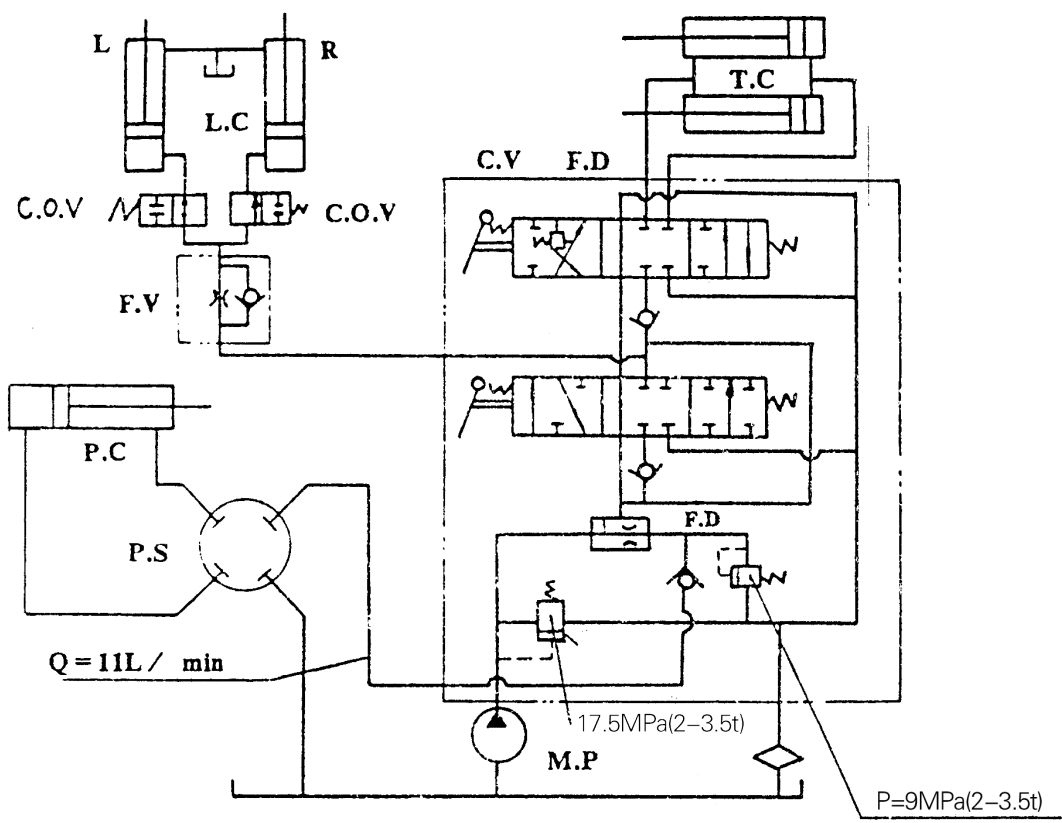

Fig.9-7 Hydraulic oil circuit
9.4 Hydraulic System (See Fig.9-7)